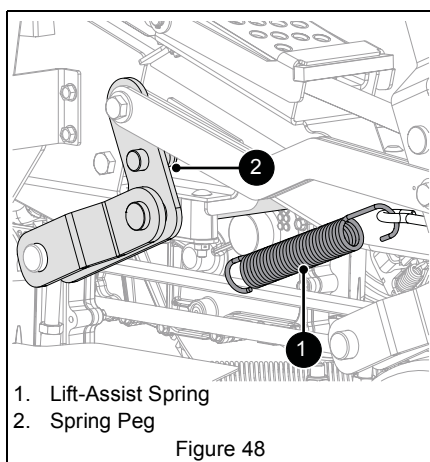

Figure 48
5. Slowly disconnect lift-assist springs from spring peg on each side of deck. See Figure 48.